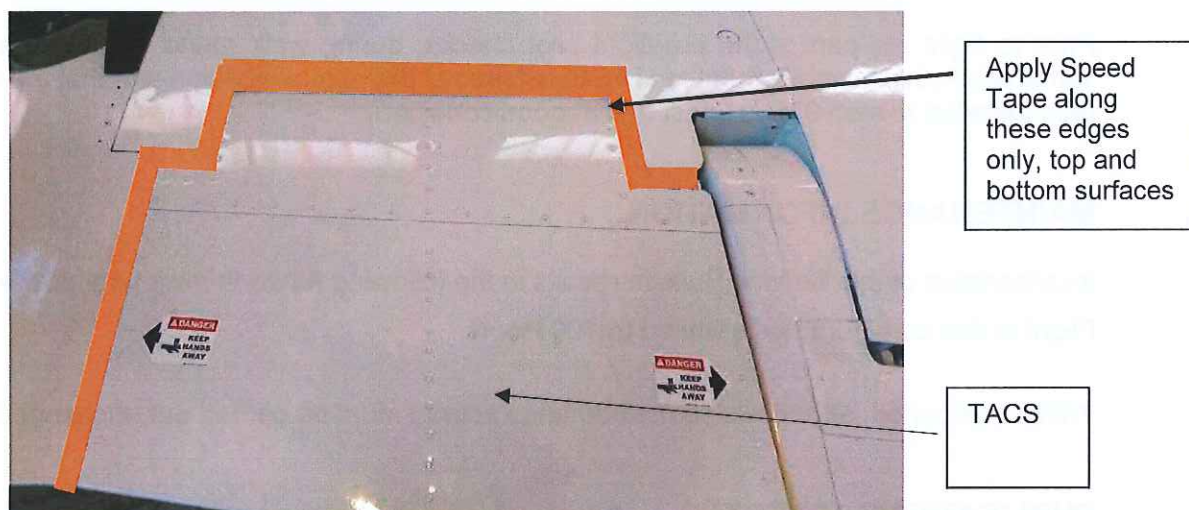

Figure 1 Locations for Speed Tape (Upper and Lower Surfaces)
- d) Ensure all surfaces are dry prior to application of tape then apply Aluminium Foil Tape (3M^T 425 Aluminium Foil Tape, Nashua 324A Cold Weather Tape or Shurtape AF100 are acceptable) of no less than 2.5" (63.5mm) width, over all the gaps around each TACS on the forward and outboard sides only (see Figure 1), on both upper and lower surfaces and evenly across the gap, to ensure that free movement of the TACS is not possible. Check that the tape is well pressed down, especially at the edges, and that there are no gaps or raised portions. Ensure that free movement of the aileron is unaffected. If the specified tape is not available, requests for the use of an alternative tape type or manufacturer must be made to the Design Organisation in the first instance, see Section 10 for contact details.